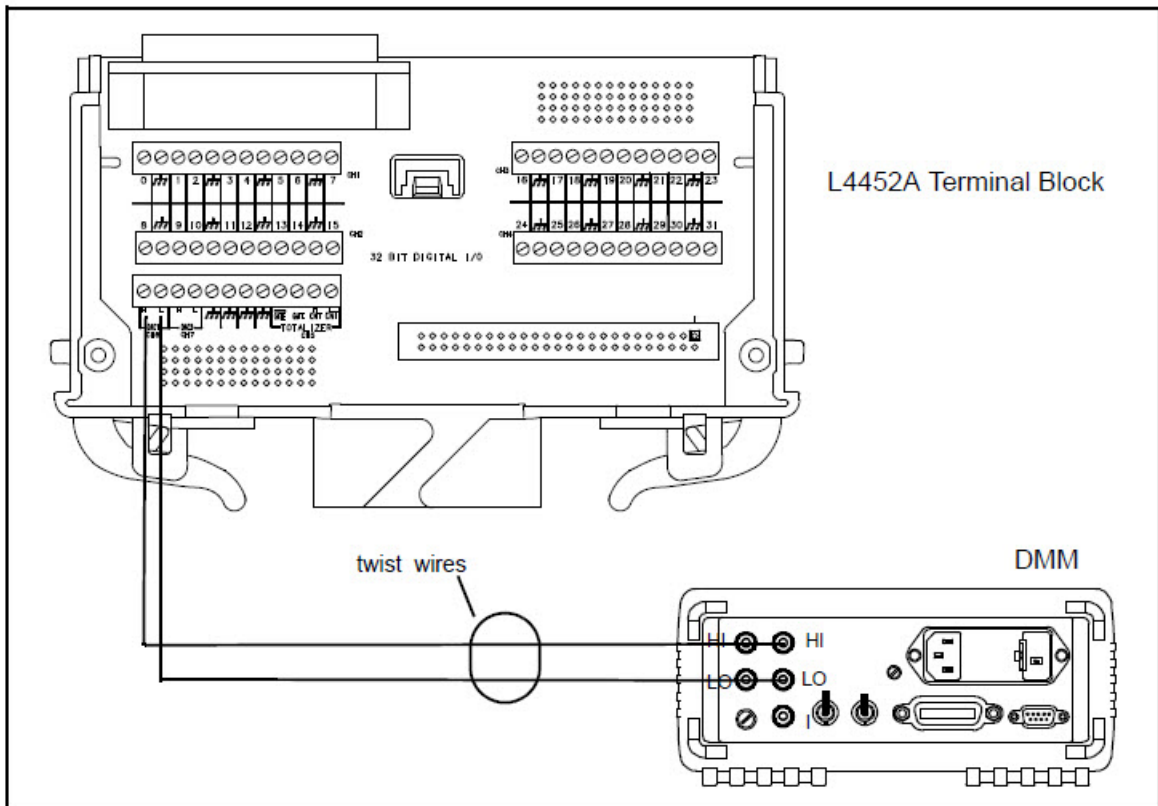

Figure 11-3 L4452A DAC Output Connections (Channels 6 and 7).
The test connection for verifying the DAC output voltage on channels 6 and 7 of the L4452A are shown in Figure 11-3.
- 3 Connect channel 6 of the L4452A as shown in Figure 11-3. Configure the L4452A to output the voltages listed in Table 11-5. For each voltage level measured, subtract the offset voltage recorded in Step 2 as applicable. The results should be within the limits listed in Table 11-5.
- 4 Connect channel 6 of the L4452A to the DMM as shown in Figure 11-3. Set the DMM to measure DC volts.